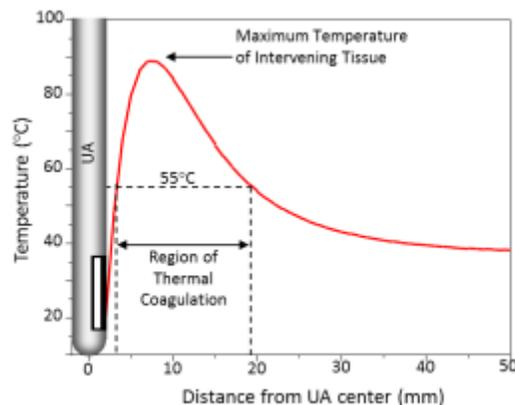

Figure 10: Sample UA temperature distribution along the heating direction
*Figure 10* shows the ultrasound-beam temperature profile in tissue produced by a UA in the direction of heating. The highest temperatures are located near the UA. Maximum temperatures are maintained below 100°C to avoid tissue carbonization and boiling, which should be avoided during ultrasound therapy.